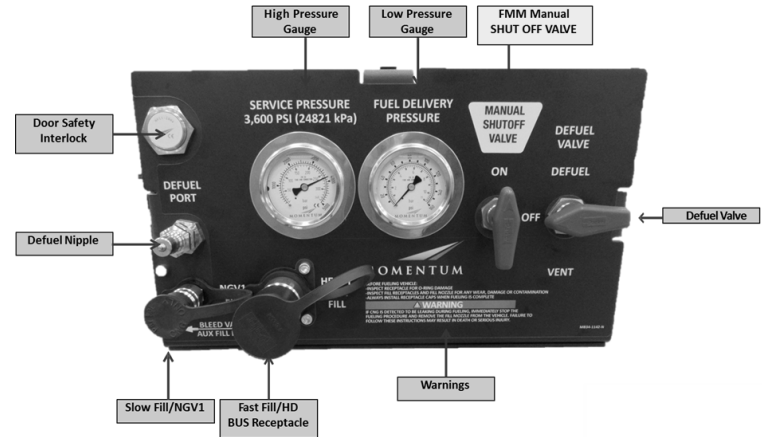

FIGURE 9 – FUEL MANAGEMENT MODULE
1. Open the FMM access door. Remove the cap from the appropriate fueling receptacle. (Figure 9)